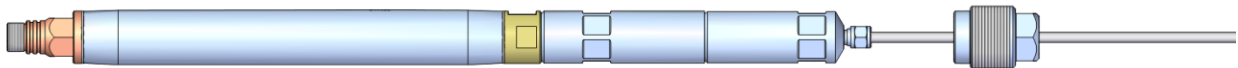
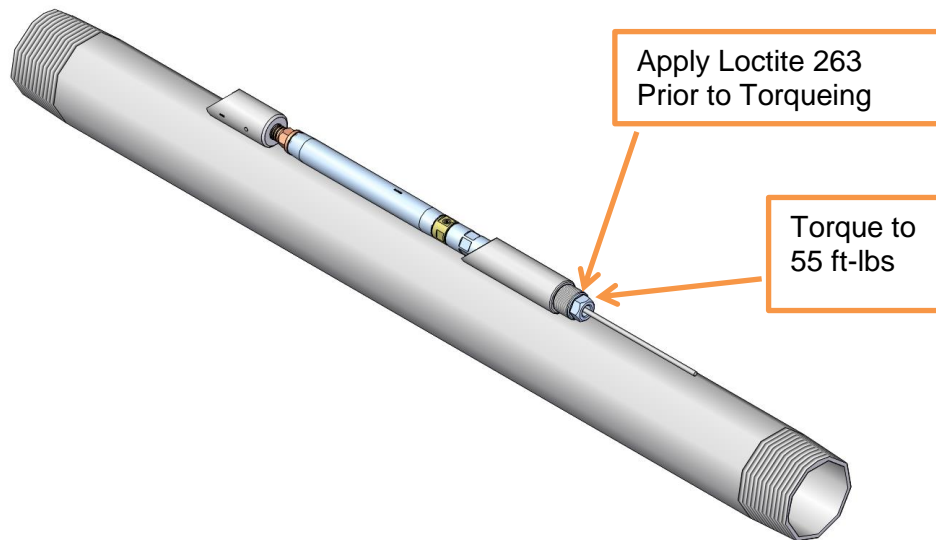

Figure 5. Gauge with TEC, Cable Heads, and Nut installed
Figure 6. Gauge installed in carrier prior to torqueing nut.
5. Torque nut to 55 ft-lbs. Figure 5 and Figure 6.